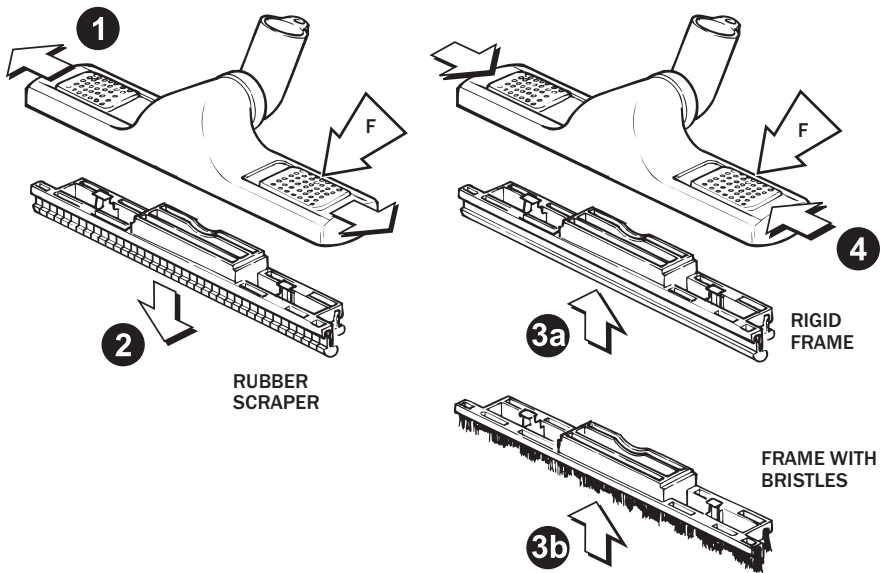

fig. 16
- Shift the stop buttons F outwards (fig. 16) to free the frame fitted to the brush.